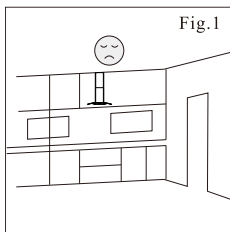

Fig.1
1. Do not install the range hood where there are many doors or windows in order to avoid affecting the exhaust efficiency of the hood that caused by air convection. (fig.1)